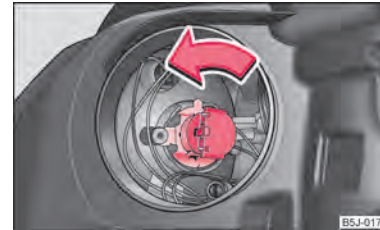

Fig. 155 Removing the light bulb for the main beam light
- Turn the connector with the light bulb up to the stop towards the left ⇒ fig. 155 and remove.